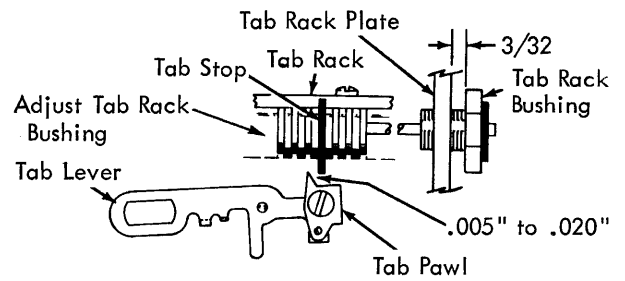

FIGURE 232. Tab Rack Bushing
6. Tab Rack (Fig. 232) - With the tab cam on its high point, adjust the tab rack left to right for .005" - .020" clearance between a set tab stop and the side of the tab lever pawl.